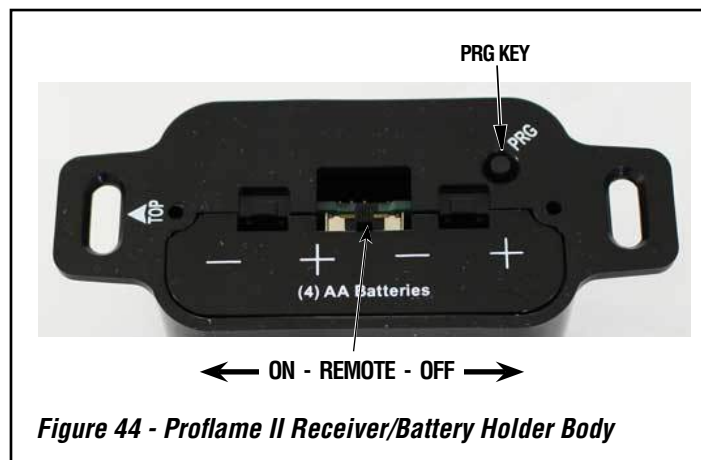

Figure 44 - Proflame II Receiver/Battery Holder Body
Install the 4 AA batteries in the Proflame II receiver/battery holder battery bay. **NOTE:** The polarity of the battery and insert into battery bay as indicated on the cover (+/-). Place the 3 position slider switch in the "Remote" position (**Figure 44**). Insert the end of a paper clip or similar object into the hole marked "PGR" on the receiver front cover (**Figure 44**). The receiver will beep three (3) times to indicate that it is ready to synchronize with a Remote control. Install the 3 AAA type batteries in the Remote control battery bay, located on the base of the Remote control and push the On button. The receiver/battery will "beep" four times to indicate the Remote control's command is accepted and set to the particular code of that Remote control. The system is now initialized.